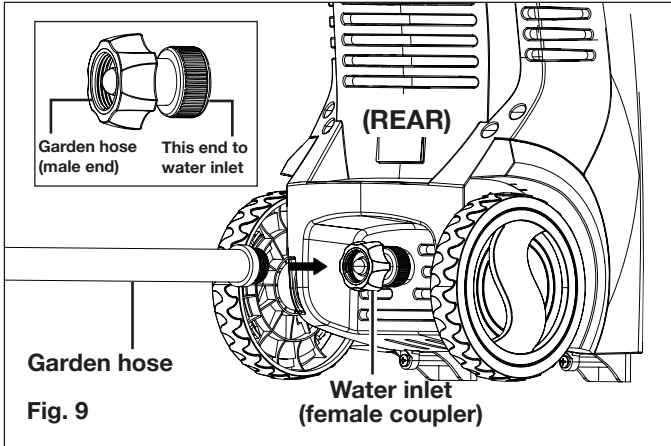

Fig. 9
- Connect the garden hose adapter (female coupler) to the water inlet of the pressure washer, then thread your garden hose (male end) into the garden hose adapter (Fig. 9). The garden hose must have an internal diameter of at least 13 mm (1/2 in.) and must be reinforced. The water supply must be at least equal to the washer delivery capacity.